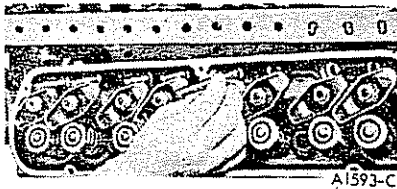

FIG. 47 Removing Valve Push Rods
4. Loosen the rocker arm stud nuts so that the rocker arms can be rotated to the side. Remove the push rods in sequence (Figure 47) so that they may be installed in their original positions.